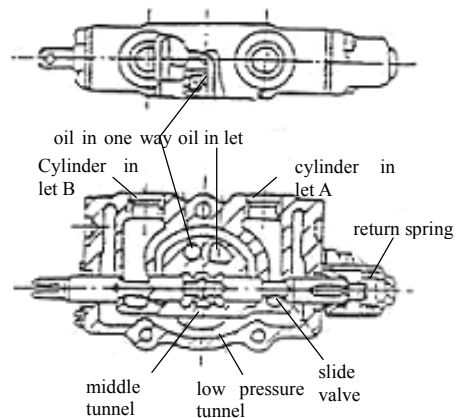

Figure 2-20
(B) Push Slide Valve In (Figure 2-20)
(C) Draw Slide Valve Out (Figure 2-20)